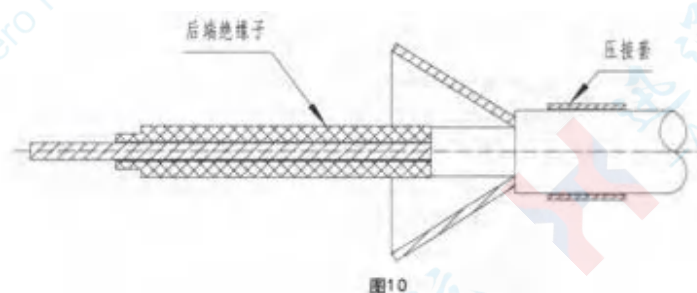

图10
③ Slide the rear insulator onto the cable's center conductor as shown in Figure 10, with its tail tightly pressed against the cable's insulation dielectric.